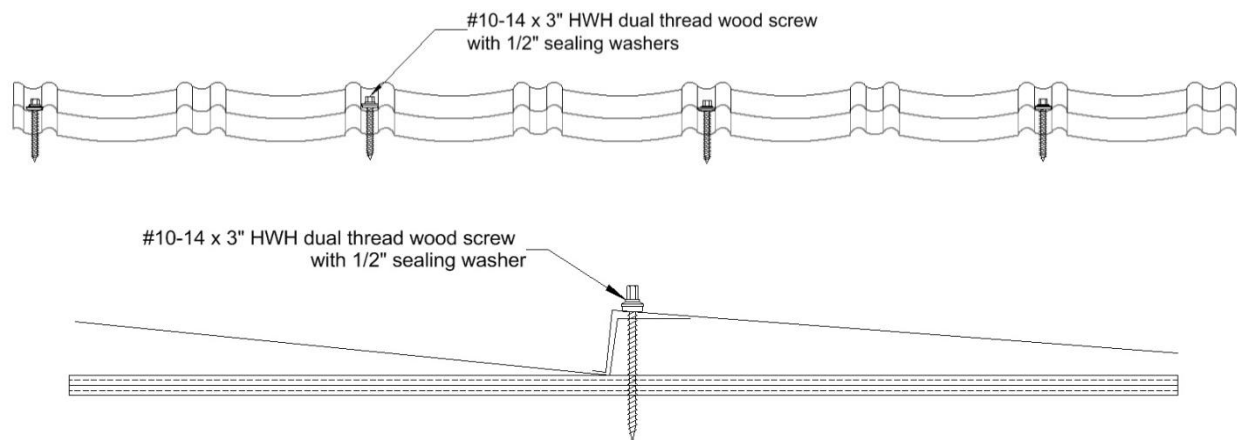

Figure 4: Terrabella Classic Panels Fastened to Deck
Panel Attachment: The panels are secured to the roof deck with four (4) No. 10-14 x 3" HWH self-drilling, dual thread corrosion resistant wood screws with $\frac{1}{2}$ " sealing washers per panel. The first screw is located 1" from the panel edge and the remaining screws spaced $14\frac{5}{8}$ " o.c. The screws are installed through the top of the head lap securing the panel to the wood deck. Refer to Figure 4 for attachment details.